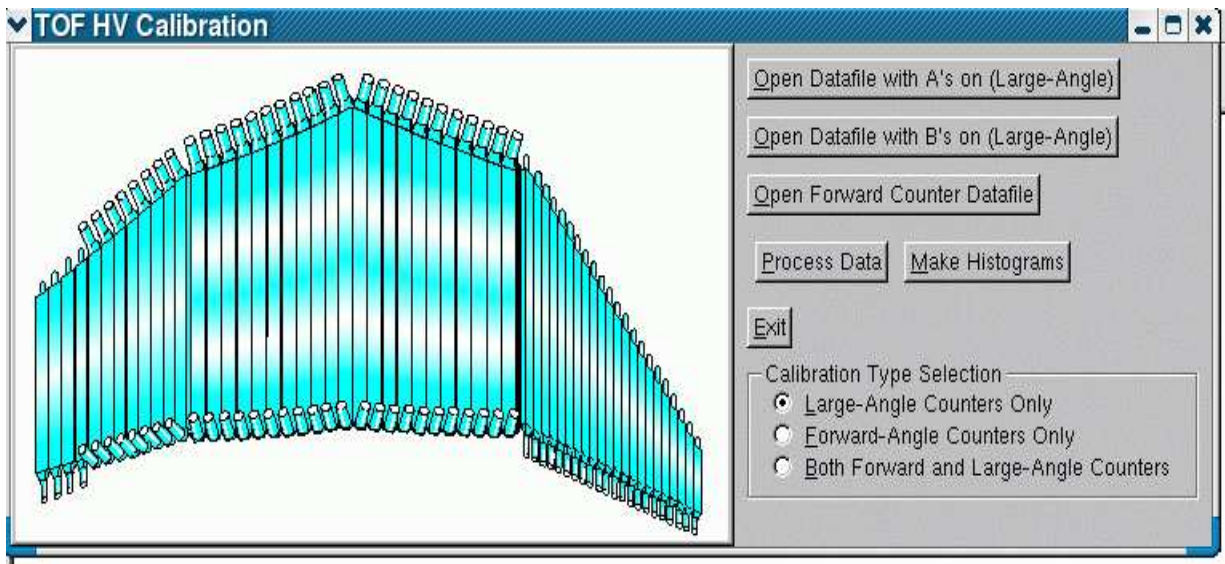

Figure 2: Main window of tofHVgui
1. Open BOS file with A's on and with B's on and click **Process Data** button (see Fig 2). This will create a root DST file from the BOS files.